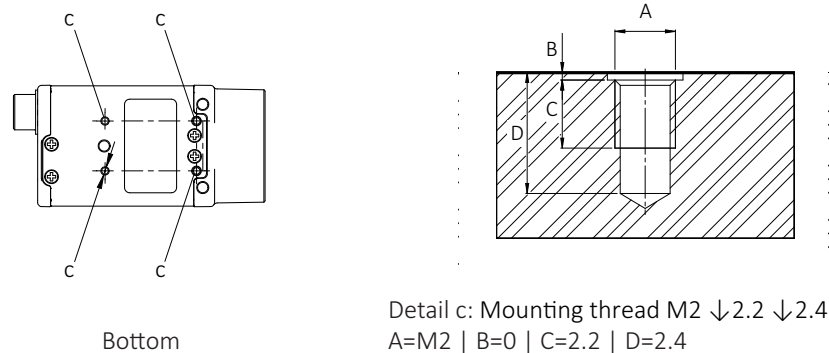

Figure 66: M2 bottom mounting threads (c)
1. Mount the camera to the base using suitable M2 screws at 0.22 Nm maximum torque for a thread engagement (C) of 2.2 mm between screws and mounting threads, see Figure 66.